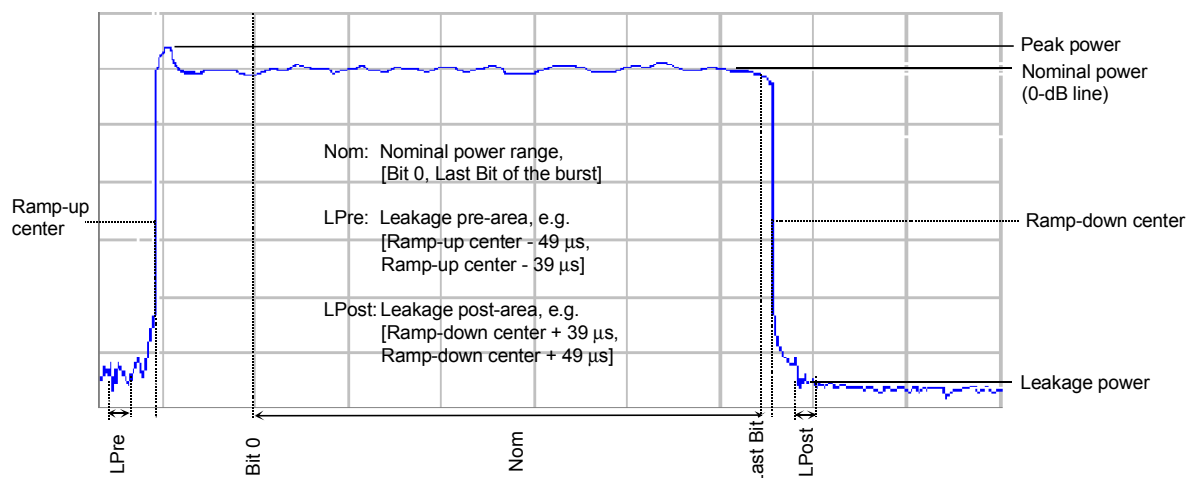

Fig. 4-49 Definition of Peak, Nominal, and Leakage Power
The *Time Scale* hotkey defines the x-axis (time) scale of the diagram and the measurement range. The entered *Start* value defines the left edge of the diagram relative to the first bit of the preamble (bit 0); see Fig. 4-49 on p. 4.63. The *Span* defines the whole diagram width.
**Nominal Power** Average burst power during the carrier-on state. The nominal power is measured as the part of the burst starting at the detected 1st bit of the preamble (bit 0) to the last bit of the burst (see Fig. 4-49 below). The nominal power determines the 0-dB line in the test diagram.
**Leakage Power** Average power during the carrier-off state. The leakage power is measured as the part of the slot comprising the leakage pre-area and the leakage post-area (see Fig. 4-49 below).